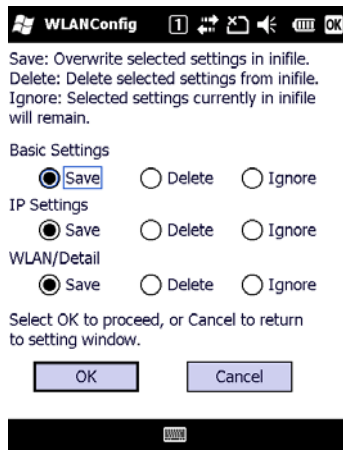

Figure 5.243
5. If **OK** button is clicked, the screen in Figure 5.243 appears. Tap **OK** button to perform a reset on the terminal so that the setting takes effect.